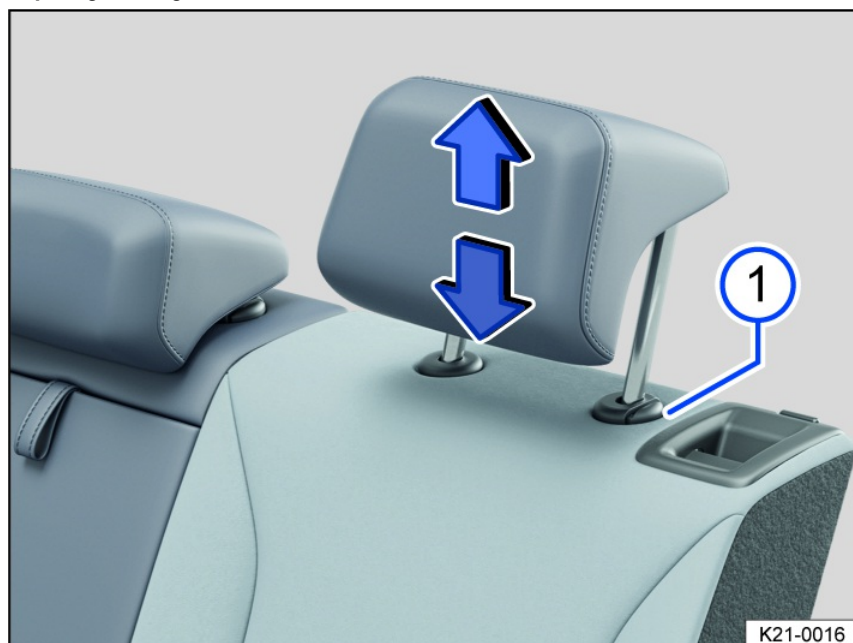

Fig. 80 General example: adjusting the head restraint on the second-row seats.
1. Push the head restraint upward in the direction of the arrow or slide it downward while pressing the fig. 80 button.